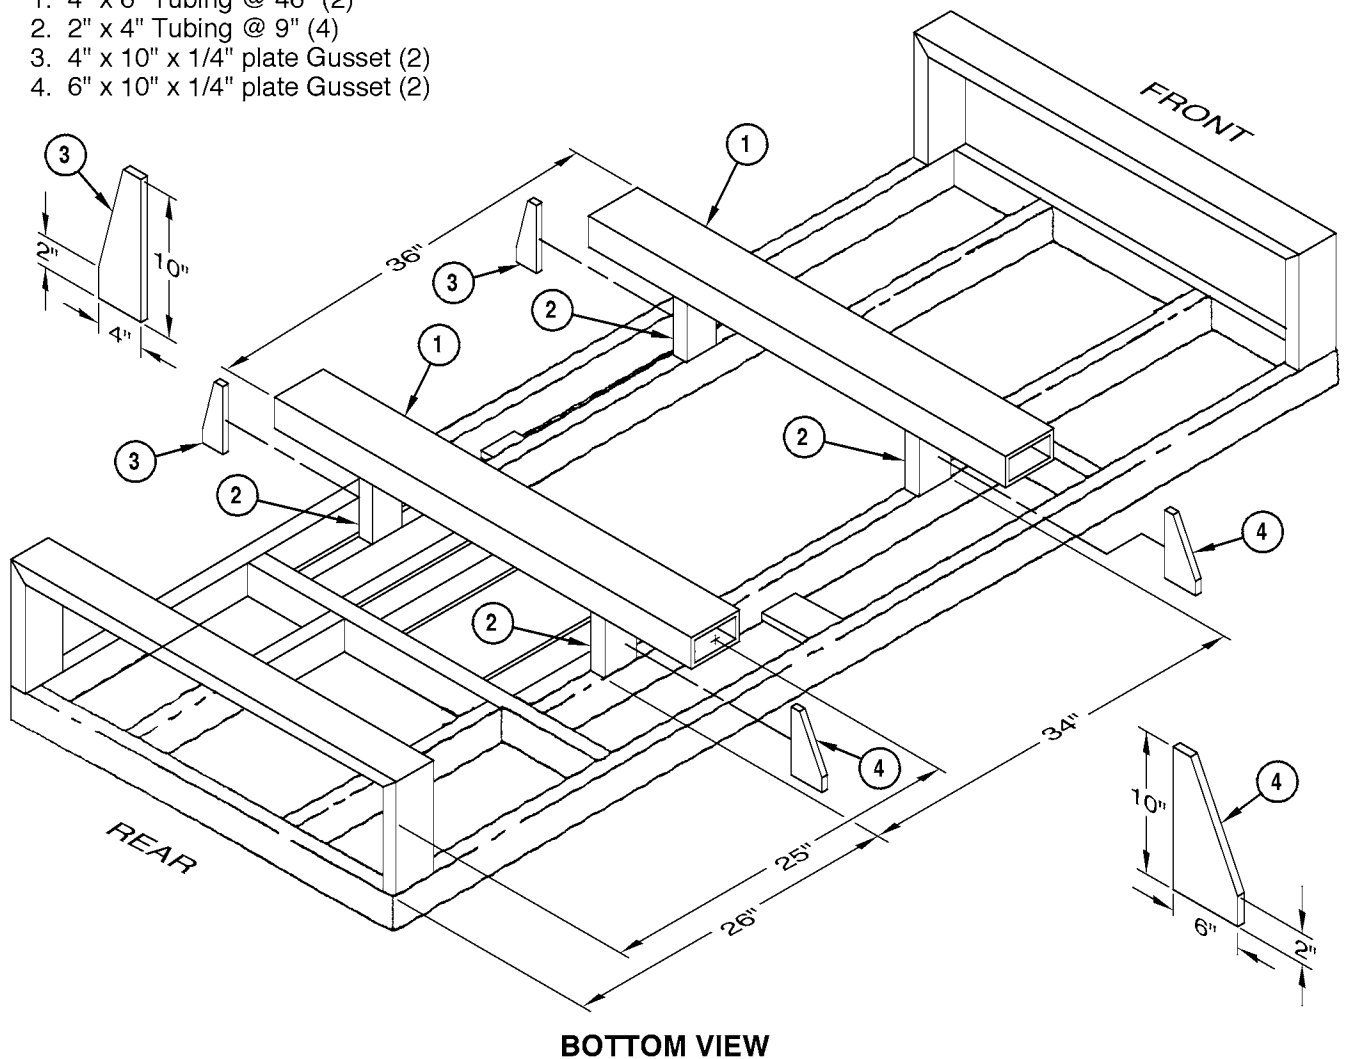
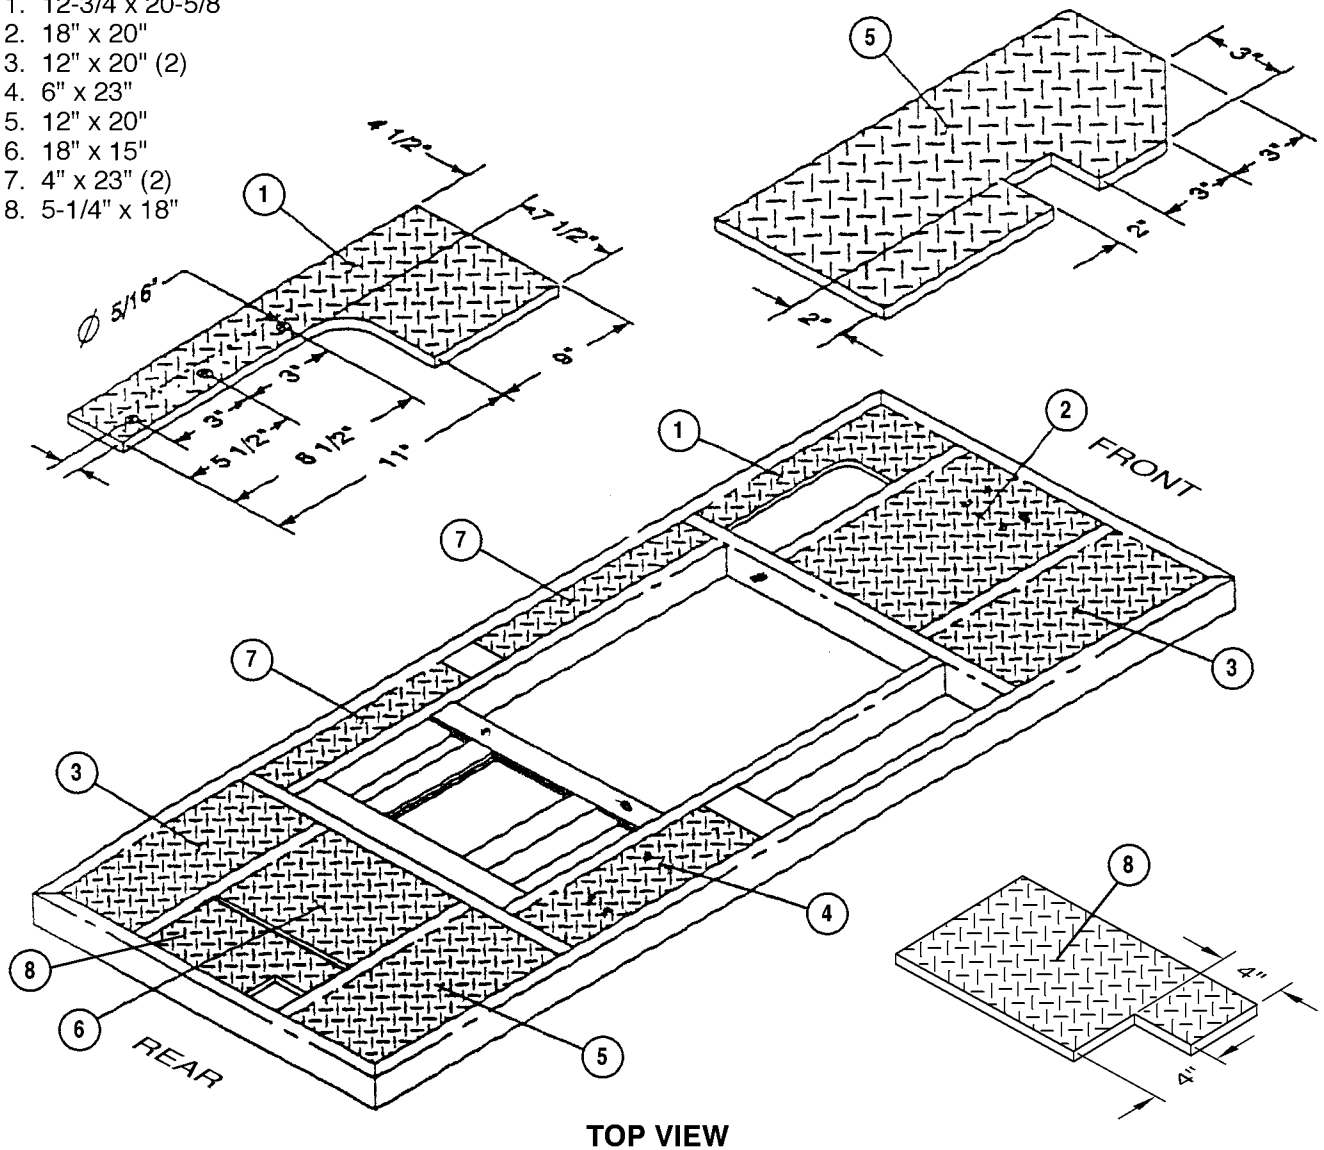

Figure 2-4. Forklift Pockets
Figure 2-5. Floor Plate Dimensions and Locations
8. From bottom of frame, 26 inches from the end, weld two 9" vertical 2" by 4" supports on internal 2" by 4" in accordance with Figure 2-4.
11. Cut floor plates (1 through 7) to dimensions shown in Figure 2-5. Tack weld in place as indicated in Figure 2-4. (Items 13 through 17 on Bill of Materials list). Hard weld, if all items are in proper alignment, in accordance with welding specification QQ-A-250.